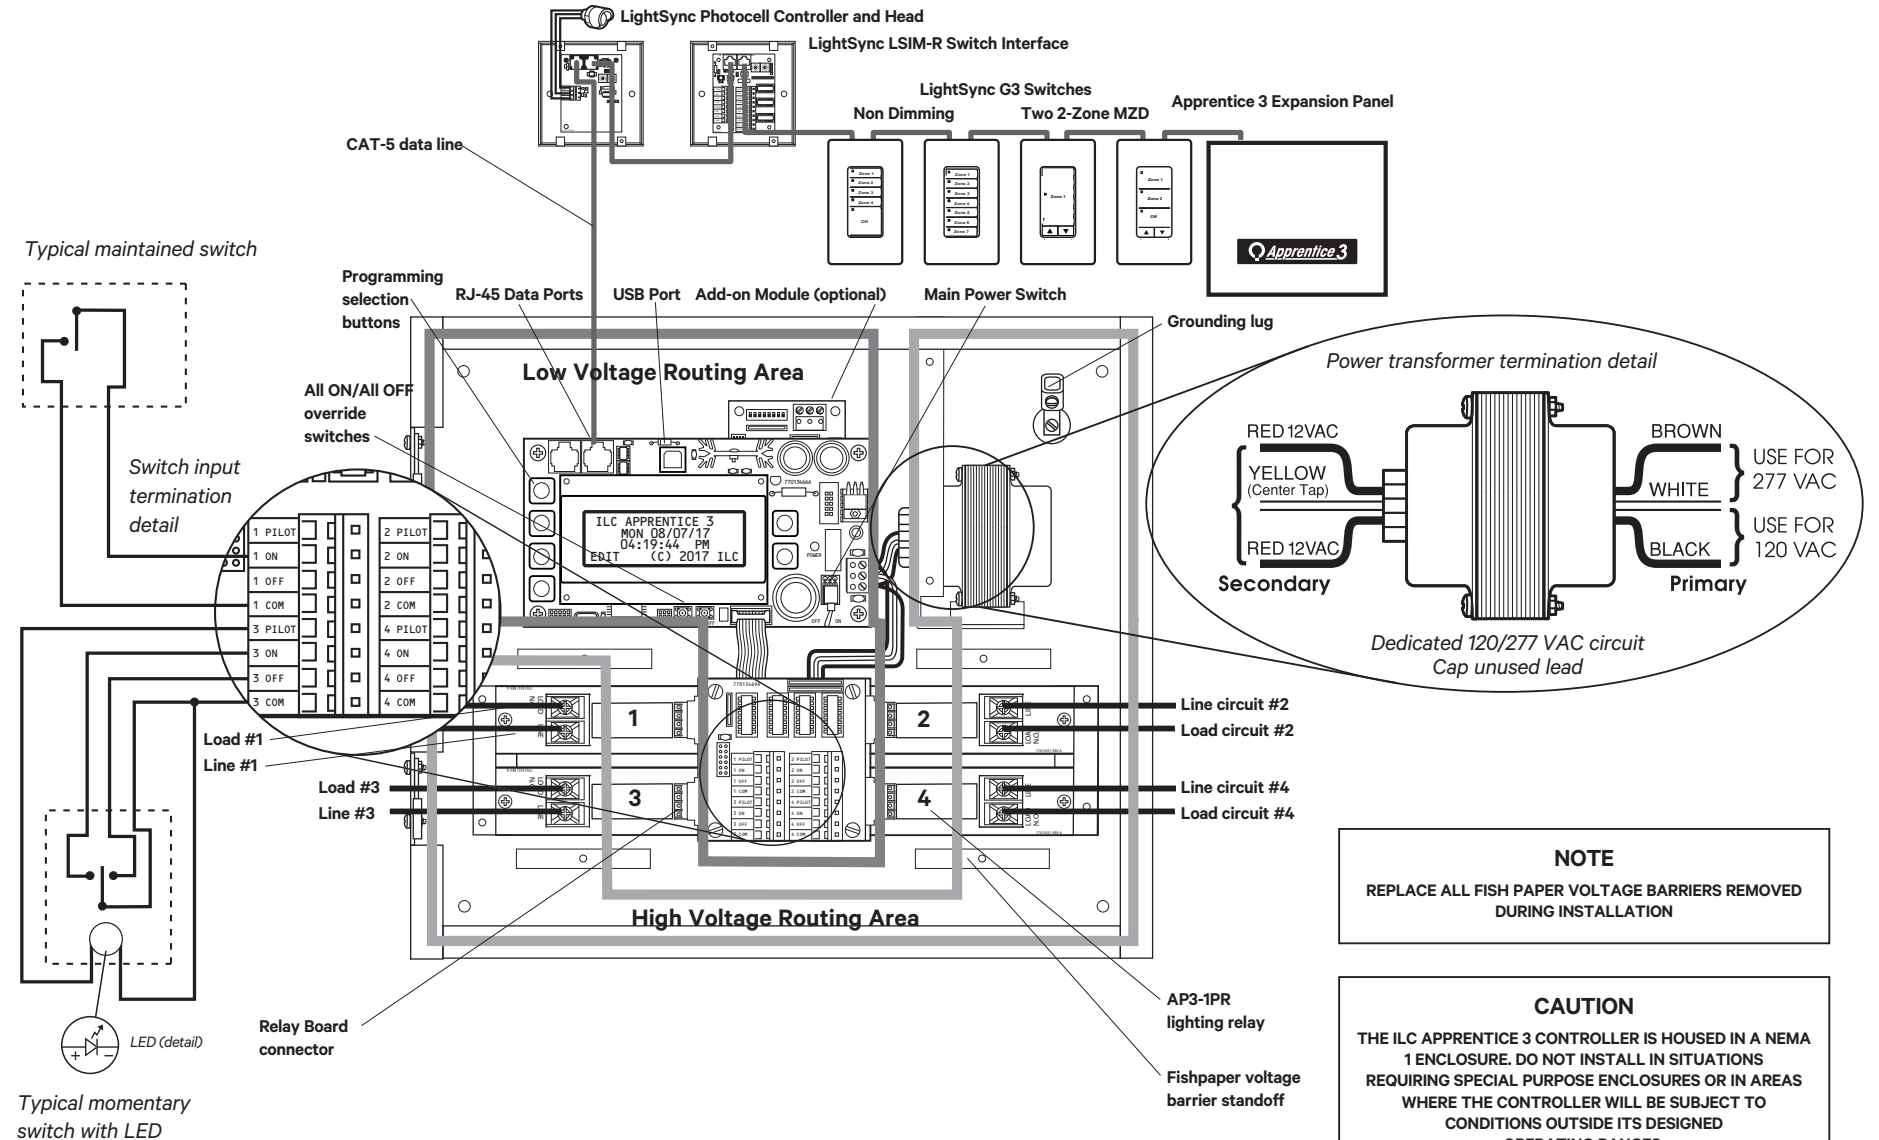

Figure 1 - ILC Apprentice 3 04 Installation Detail
Warning: Keep all Low voltage and High voltage wires routed only in designated areas as shown in Figure 1.
- Run a dedicated 120 or 277 VAC circuit including ground conductor and terminate to the primary connections of the transformer and ground lug. Cap the unused lead. See Figure 1.
- Terminate as shown in Figure 1 for momentary or maintained switches.
Verify that there is 24 VAC on processor transformer secondary and 12 VAC between each leg and the center tap. (See Figure 1.)
1. Turn the power switch located on the CPU board ON. (See Figure 1.)
3. Verify that both power lights on each I/O board are lit. (See Figure 1.)
Switch all relays ON and OFF, pushing the All ON/All OFF override switches located on the CPU board. (See Figure 1.) Verify that the relay status LED goes ON and OFF and that the relay itself changes state. Verify that the relay controls the proper circuit.
2. Ensure that the Relay Board connector is fully engaged (See Figure 1).